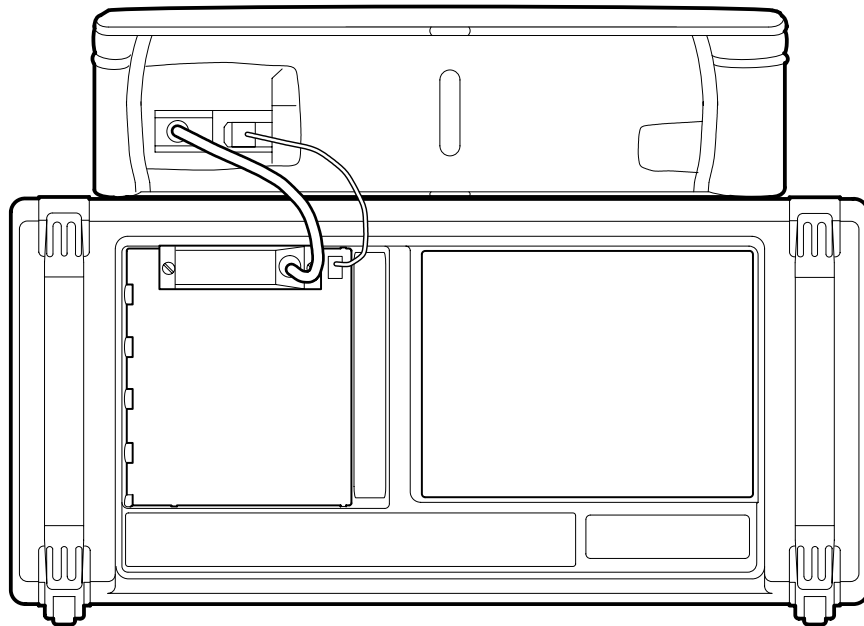

Figure 5: Connecting the cables from the printer to the oscilloscope
6. Route the power and data cables through the opening in the rear of the printer pouch. See Figure 5.